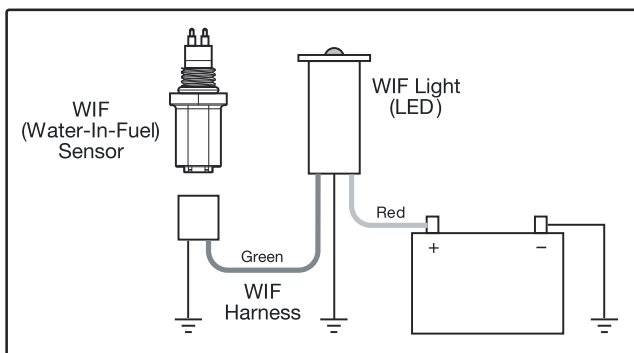

Figure 3 WIF Wiring
8. Locate 12 VDC or 24 VDC power source. Run red wire from power source to 4" (101.60 mm) red wire on WIF LED. Add a 1 A in-line fuse (not included). (See Figure 3)